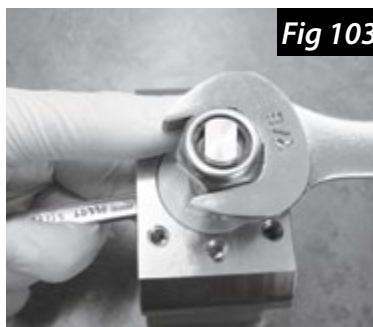

Fig 103
6. Remove the stem nut with a 7/8" wrench. Hold the valve stem in place by grasping the base of the stem on the inside of the valve body with a 5/16" or 8mm open-end wrench or an adjustable wrench (Fig 103). **Note: This nut will be replaced with a new nylon lock nut and therefore can be discarded.**